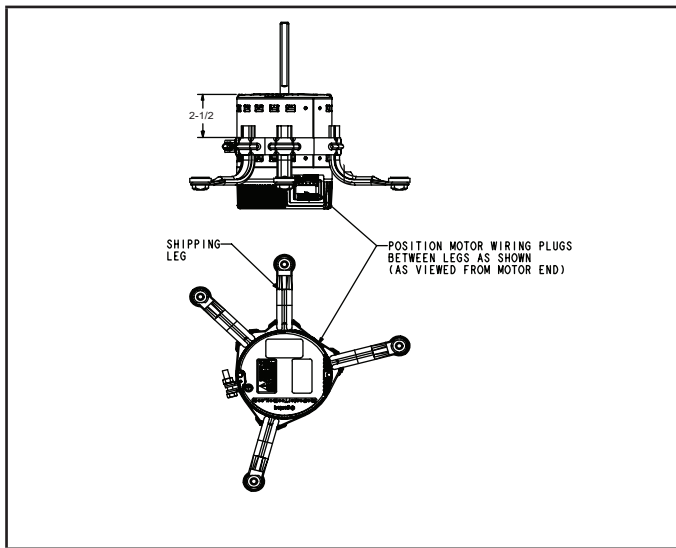

Figure 3
- 7 - Position frame/belly band on to the replacement motor per the dimensions and instructions. (see figure 3 or 4 as applicable)